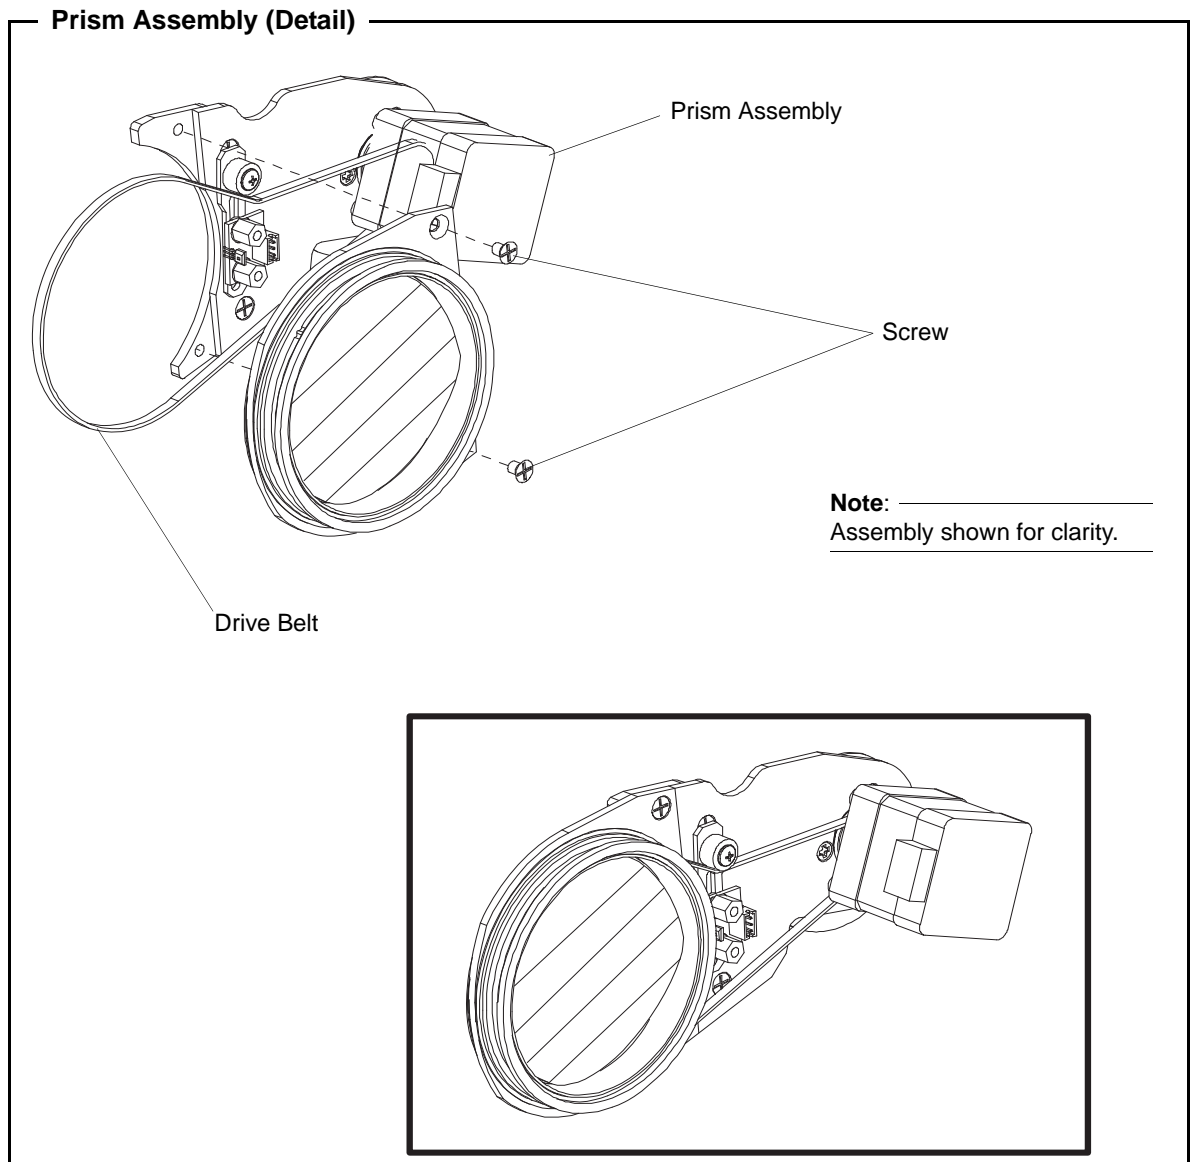

Figure A-13: Prism Assembly Detail
- Step 6. As indicated in Figure A-13 remove two screws securing prism to arm. **IMPORTANT!** Be careful not to lose removed screws. These will be required for reassembly and installation.